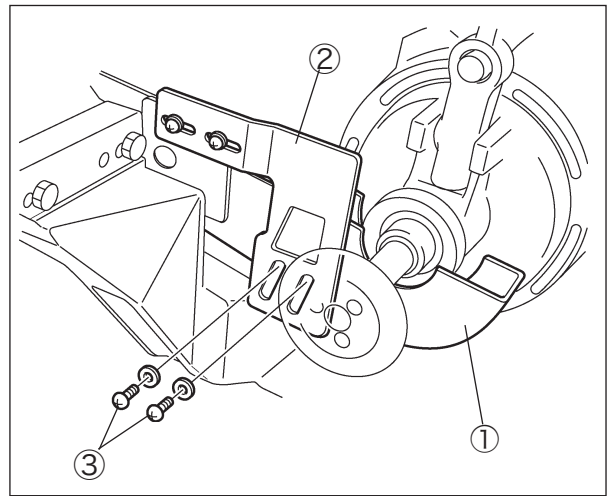

Fig.1-7
- (1) Set the belt cover(lower) ① on the belt cover bracket ② with the screws ③ . (Fig. 1-7)